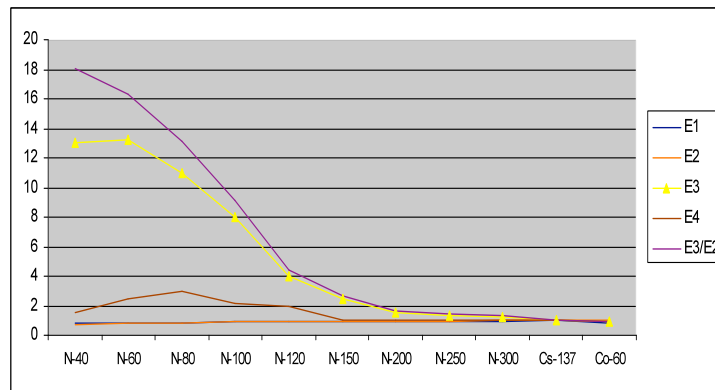

Figure 9 – Chart of element responses as a function of radiation energy.
Step 2 – The dosimeter/holder combination is irradiated and read for several lower energies (figure 9)